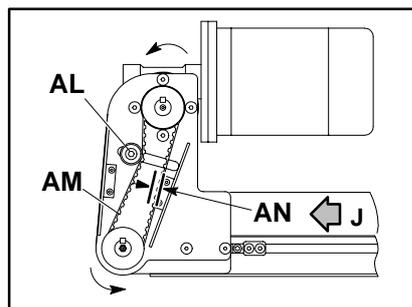
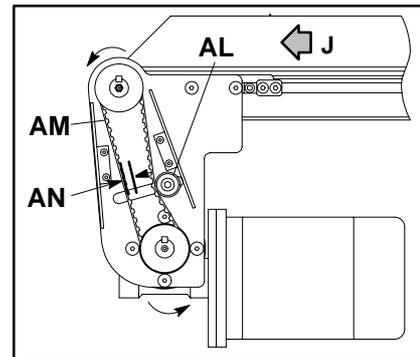

Figure 17: Top Mount Package
Figure 19: Bottom Mount Package
**NOTE:** The following information applies to both top (Figures 17 & 18) mounting and bottom mounting (Figures 19 & 20) packages. The position of the tensioning bearing assembly (AL) with respect to the timing belt (AM) is dictated by the direction of conveyor belt travel (J).